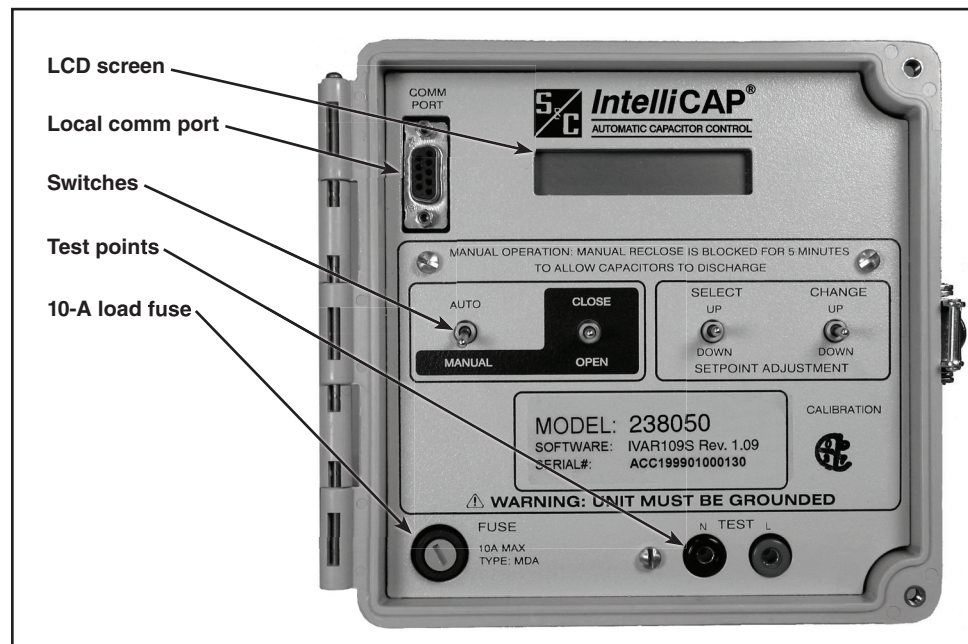

Figure 1. The IntelliCap Control faceplate.
Test points are accessible below the faceplate. See Figure 1.
STEP 1. Remove the fuse holder from the faceplate and replace the fuse. See Figure 1.